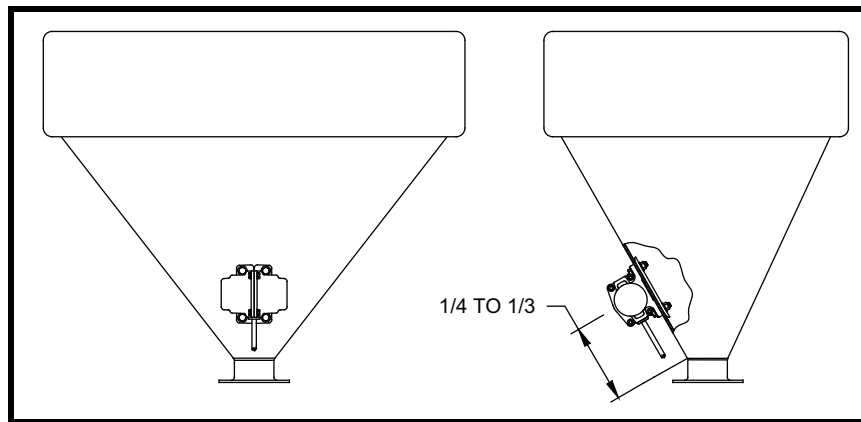

Figure 1. Locating Vibrator on Hopper
2. See Figure 1. Locate vibrator in lower 1/4 to 1/3 of structure slope length.